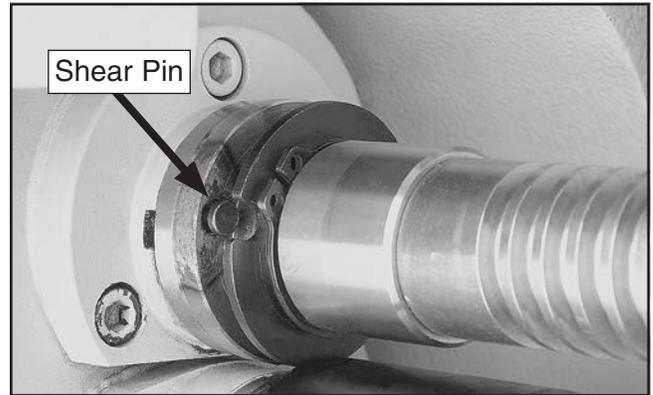

Figure 132. New shear pin installed in bore.
9. Insert the new shear pin into the bore, as shown in **Figure 132**.